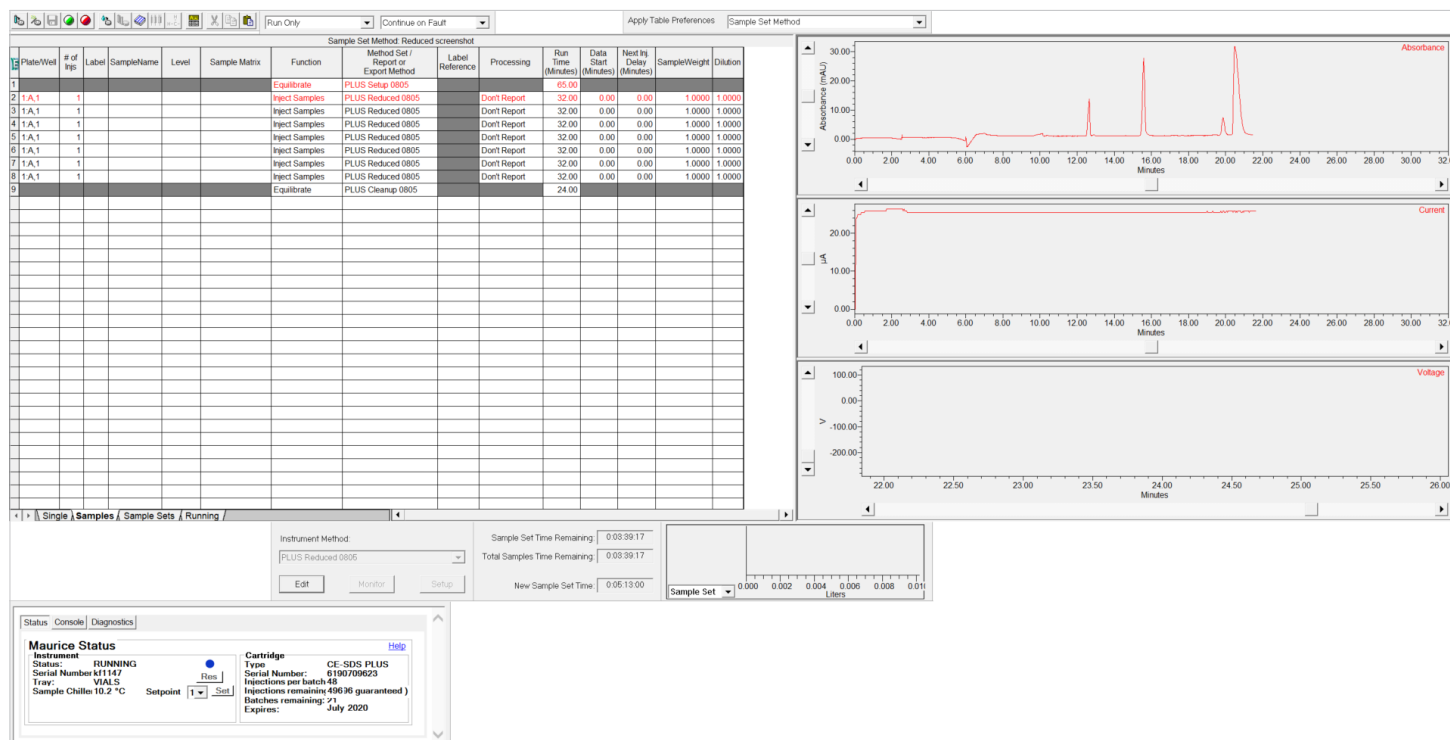

FIGURE 5. CE-SDS separation of the ProteinSimple IgG Standard monitored in real time using Empower® software.
1.0 mg/mL of reduced ProteinSimple IgG Standard was prepared as recommended by the ProteinSimple CE-SDS IgG Standard Product Insert and run as 10 replicates on an Empower® controlled Maurice and a Compass for iCE controlled Maurice. The samples were separated for 25 minutes at 5750 V and sample separations were monitored in real time in the Empower® "Run Samples" window (FIGURE 5).